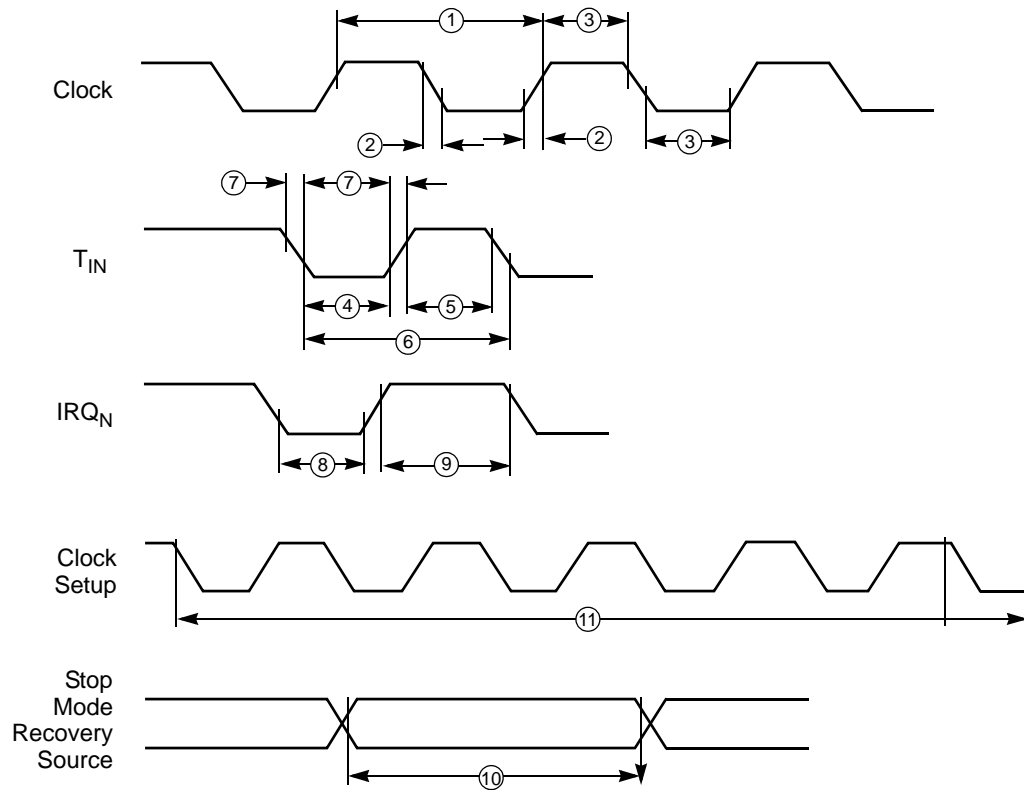

Figure 5. Timing Diagram
This section discusses the alternating current (AC) characteristics. The timing diagram is shown in Figure 5 and described in Table 7.